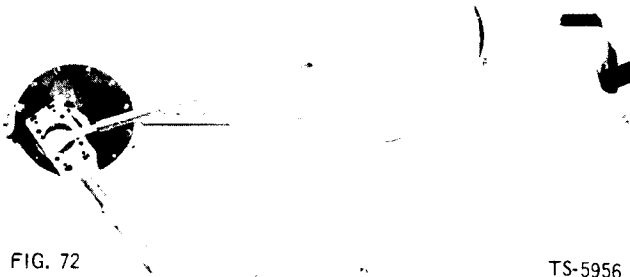

FIG. 72
7. Position adapter on differential pinion. Use torque wrench to tighten pinion shaft nut to 300 ft/lbs (Fig. 72).
11. Position flange on pinion shaft; secure with nut torqued to 300 ft. lbs. (Fig. 72). Lock nut with cotter pin.